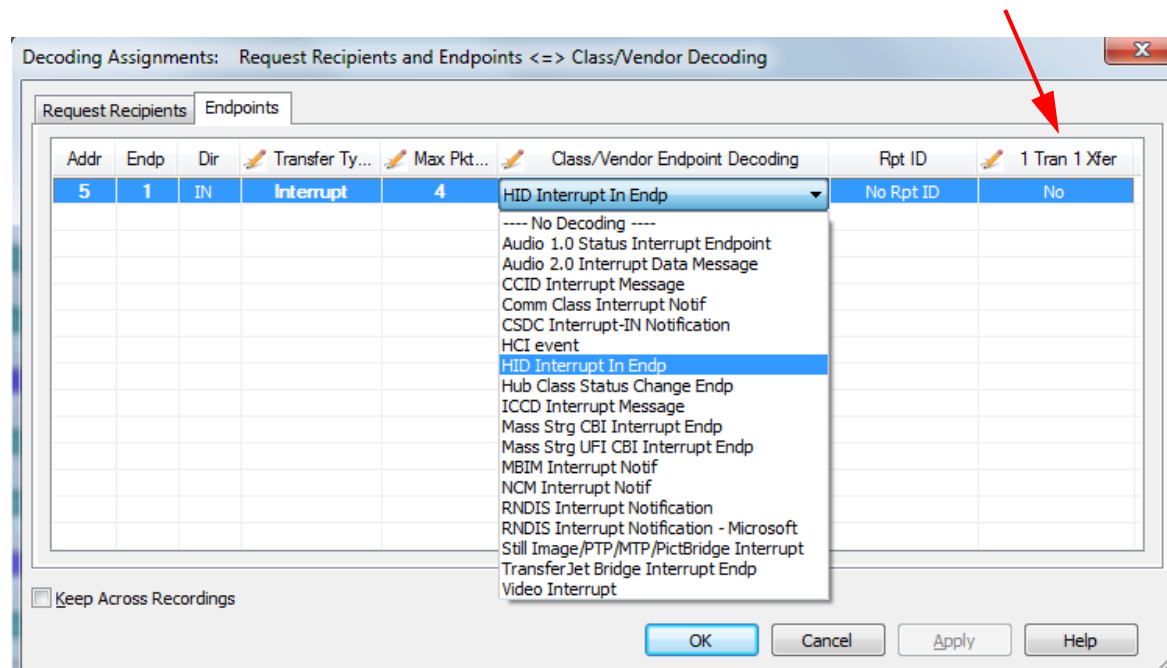

Figure 8.6: 1 Tran 1 Xfer column
10. The USB Protocol Suite decoding engine uses different rules like “Short Packet” [Packets with length less than Max packet size], “Transferring required data by endpoint” to collect transactions under transfers. But, in some cases [like interrupt transfers] transfer collection uses a simple rule of “1 transaction 1 transfer”. When this option is set as “yes”, any transaction at selected endpoint will make a transfer level packet which could be decoded by transfer level scripts. To select this model of transfer, use the “1 Tran 1 Xfer” column to select it (see Figure 8.6 on page 197).